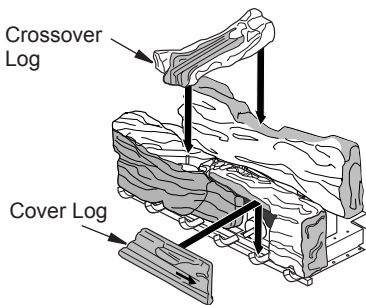

Figure 20 - Control Cover Log Placement (Variable Manually-Controlled Models)
3. Slide control cover log into position between two front logs assuring the cover log seats into cutout section (see Figure 20, page 16).